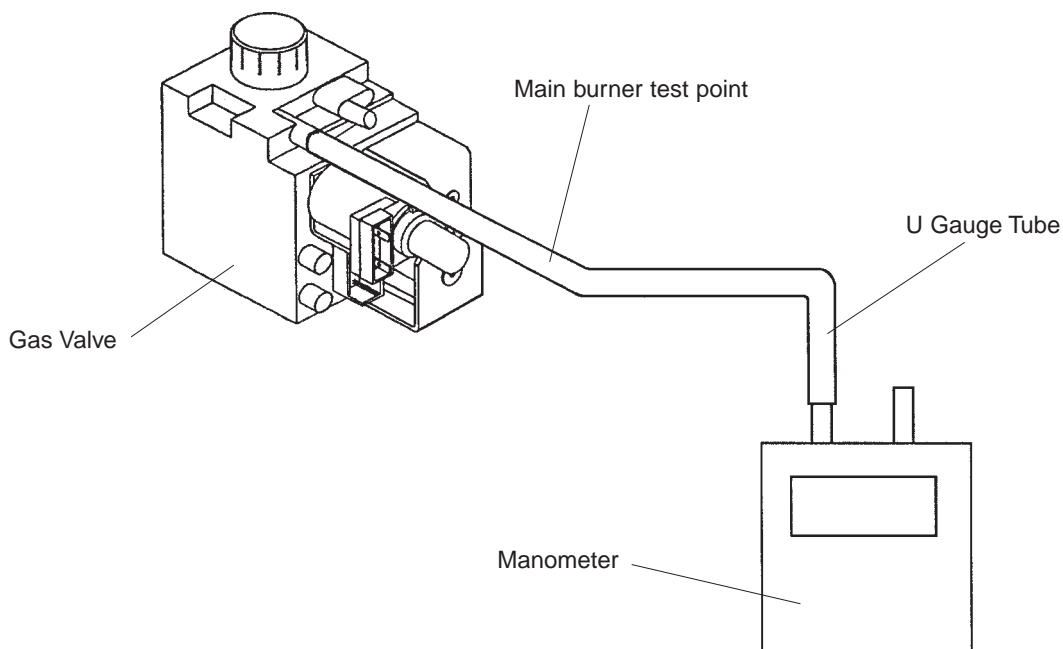

Fig. 23
- 6.7.3** Locate the main burner pressure test point (see fig. 23) and slacken the screw half a turn in an anti clockwise direction. Attach a suitable U gauge tube between the test nipple and manometer (see fig. 23).